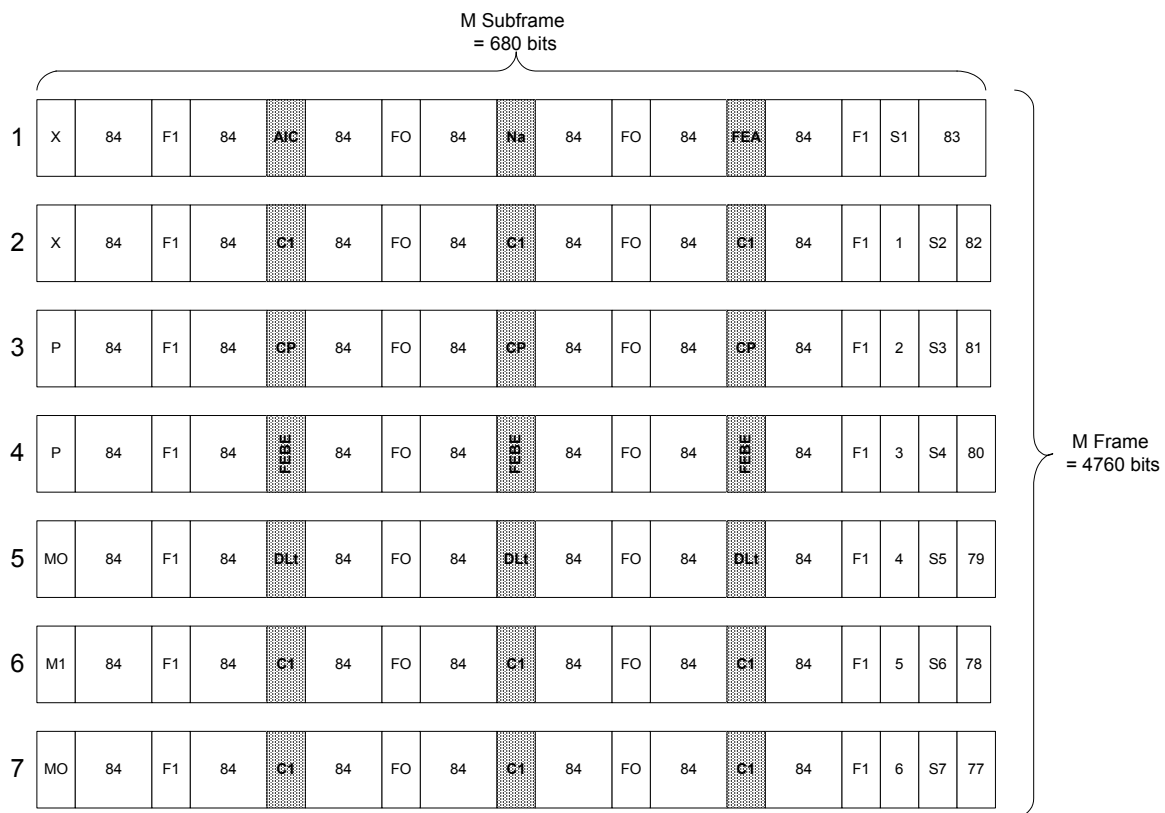
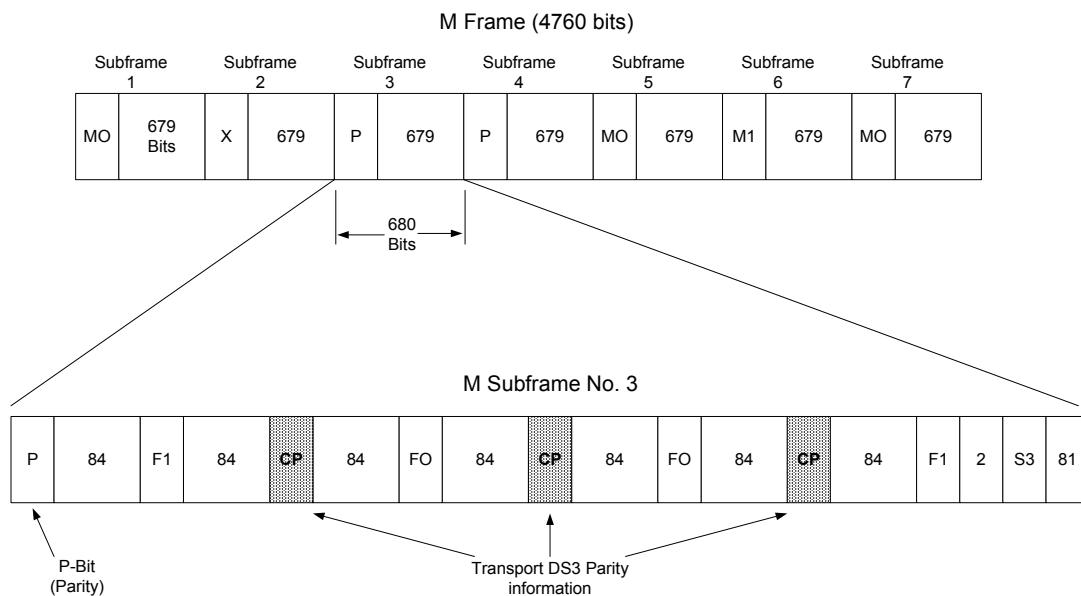
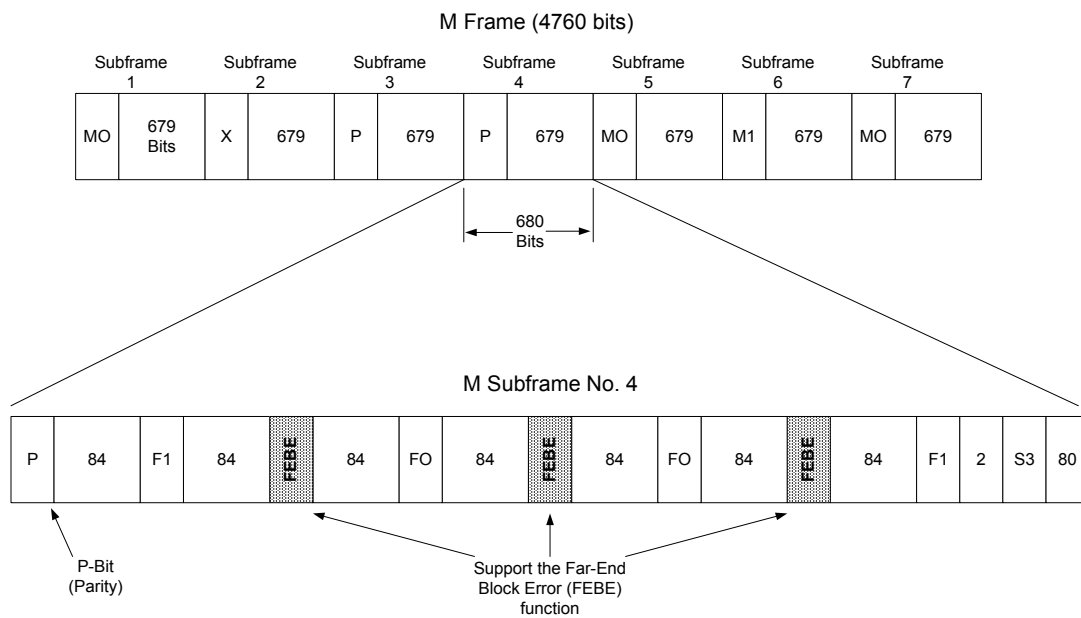

Figure 2-2 Multiframe Structure
Figure 2-4 Subframe 3 C-bits
Figure 2-5 Subframe 4 C-bits
Figure 2-2 shows how the frame is structured with the C-bits highlighted. Figures 2-5 through 2-8 provide details about the individual subframes.
The X-bits, located in the first bit position of both M-subframe 1 and M-subframe 2 (see Figure 2-2), are both set to zero (0) if a Loss-of Signal (LOS), Out-of-Frame (OOF), or Alarm Indication Signal (AIS) is detected at the far-end during any one-second interval. This signal is transmitted to the near-end for one second, then the X-bits return to their normal condition (both ones). X-bit states of 01 or 10 are abnormal and are ignored by the near-end.
The three C-bits of Subframe 3, called the CP bits, are used to transport DS3 parity information. At the DS3 transmit location, they are set to the same value as the P-bits of Subframes 3 and 4. See Figure 2-4 and Figure 2-5.
The first bit of both Subframes 3 and 4 are called P-bits. They are used as parity indication bits for information bits, and are monitored for indications of DS3 signal errors. See Figure 2-4 and Figure 2-5.
If an incoming path error (framing error or parity error) is detected at the receiving side, the three FEBE bits are set to any combination of 1s and 0s except 111, and sent to the far-end terminal. A setting of 111 means there are no framing or parity errors. See Figure 2-5.